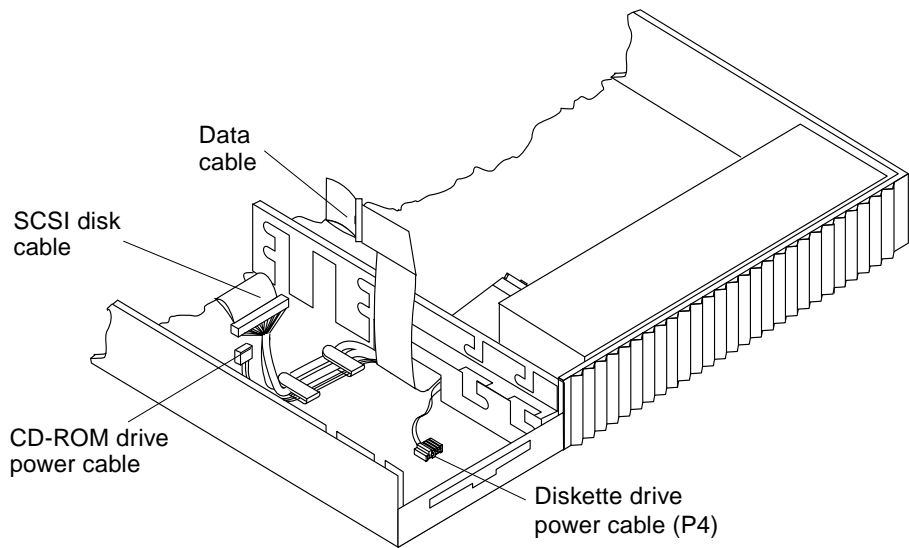

FIGURE 9-17 Moving the SCSI Disk Cable and the CD-ROM Drive Power Cable
- c. Locate the two-wire diskette drive power cable labeled P4. Move the SCSI disk cable and the CD-ROM drive power cable away from the diskette drive opening (FIGURE 9-17 and FIGURE 9-17).**